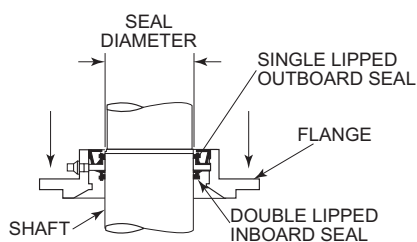

Figure 6.2.4 Placement of Seal Carrier Assembly onto Shaft
4. When the seal carrier is piloted on the shaft pilot, seat the seal carrier by slowly pressing down on the flange; reference Figure 6.2.4.